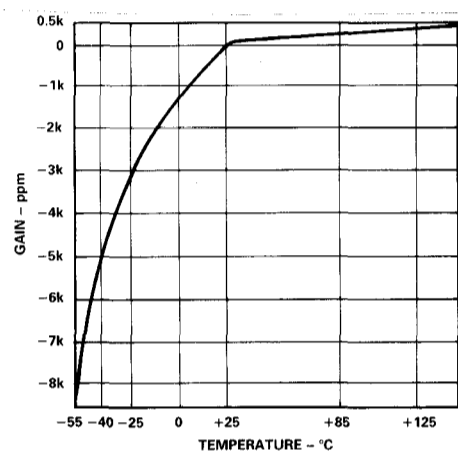

Figure 1. Gain (ppm of Span) vs. Temperature ($^{\circ}\text{C}$)
- ¹Refer to Figure 1 for a plot of gain versus temperature.
Gain Temperature Coefficient. Figure 1 presents the AD203SN's gain temperature coefficient over the entire -55°C to $+125^{\circ}\text{C}$ temperature range.